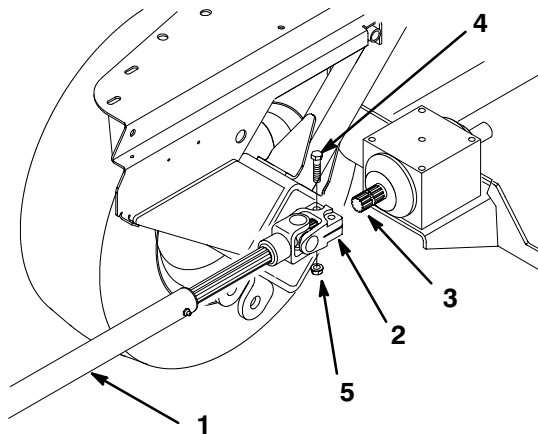

Figure 30
- Remove 2 bolts (3/8 x 1-5/8 in. (41.5 mm)) and 2 locknuts (3/8 in.) from universal joint and slide the driveshaft off gearbox shaft (Fig. 30).